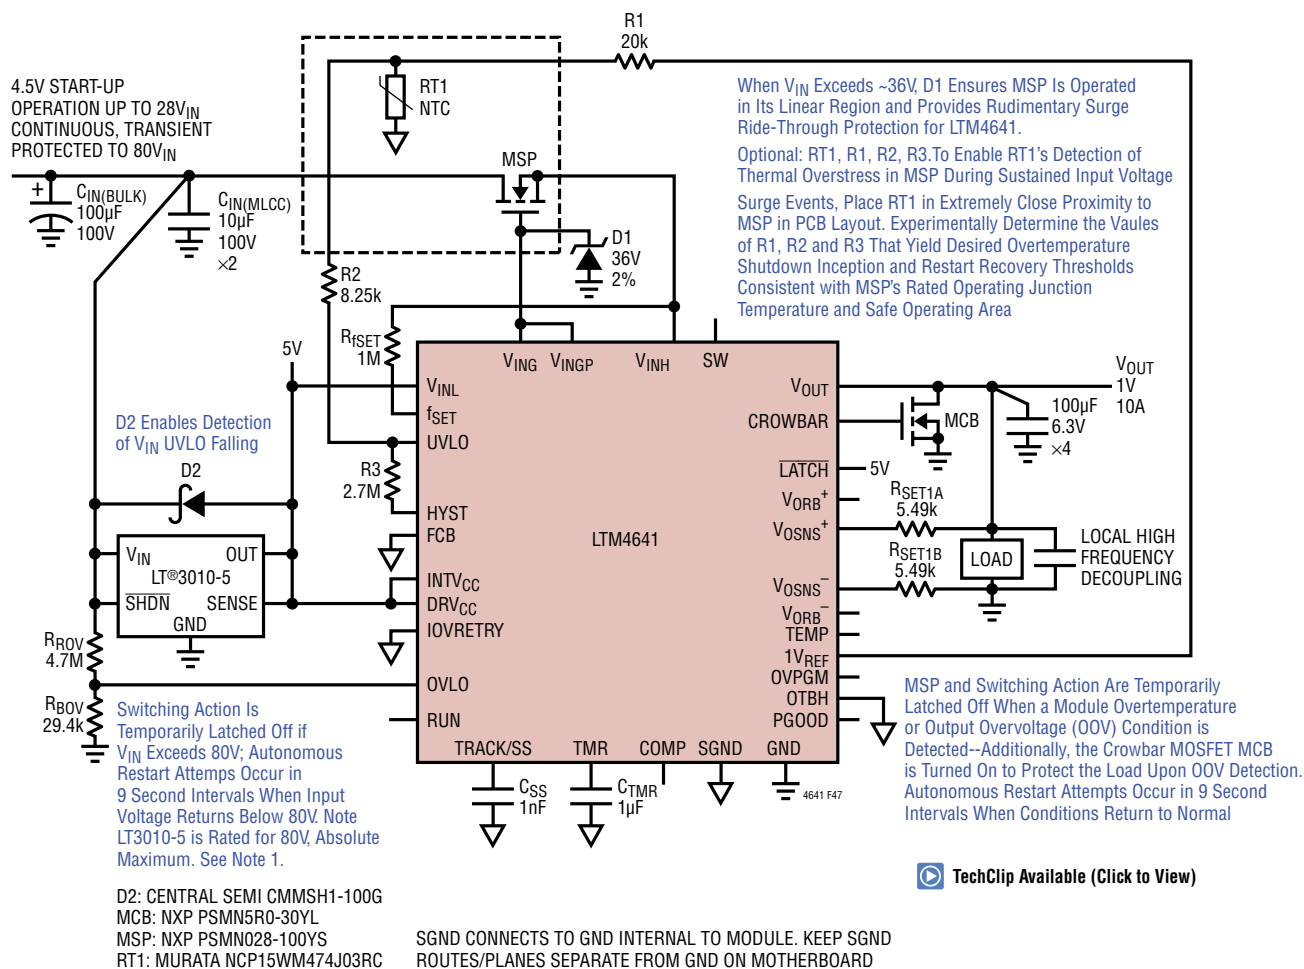

Figure 47. LTM4641 Generating 1V Output at 10A, Surge Protected up to 80VIN Transients. Start-Up and Shutdown Waveforms with TMR = INTVCC Shown In Figure 2
- (4) In order to maintain a relatively constant switching frequency for a given output voltage (across the full line voltage), the on-time of M_{TOP} should be inversely proportional to the voltage source feeding the V_{INH} power stage—upstream of MSP, if a power-interrupt MOSFET is used (Figure 46). When V_{INL} and V_{INH} are operated from different rails, this goal can be accomplished satisfactorily by placing R_{fSET} between f_{SET} and the power V_{IN} input source (see Figure 49: the connection is to V_{IN} and not V_{INL} , and usually not V_{INH} , but see a counterexample in Figure 47 and explanation in item number 5 of this list). A minor error term to the on-time is introduced by the internal $1.3M\Omega$ V_{INL} -to- f_{SET} -connected resistor in such scenarios, so calculation of I_{ON} at all operating input voltage corner cases (power, V_{INH} and control bias, V_{INL} extremes) and the resulting switching frequency range of operation, given by Equation 6, should be considered.
- (5) When MSP is used, and when V_{INL} and V_{INH} are operated from different rails—here is the reason it is recommended to connect R_{fSET} from f_{SET} to the drain of MSP rather than V_{INH} : prior to start-up, MSP is off, and V_{INH} is discharged. Connecting R_{fSET} to V_{INH} would set the on-time at the instant switching activity commenced to be much lower than intended. The on-time would not reach its final settling value until V_{ING} circuitry had turned on MSP enough for V_{INH} to become pulled up to V_{IN} potential. It should become apparent that a mechanism may exist for dynamic interaction between how rapidly the output voltage ramps up (depending on TRACK/SS pin usage) versus how rapidly MSP might turn on. We know from item number 2 of this list that on-time should not be arbitrarily large. In general, to avoid any undesirable
interactions—which might at worst result in excessive output voltage ripple or non-monotonic output voltage ramp-up, a sufficiently slow output voltage ramp-up time can eliminate the danger of V_{INH} and on-time settling interactions influencing output voltage ripple—but properly, this requires investigation and hardware evaluation on a case-by-case basis. Figure 47 shows an example where R_{fSET} connects between f_{SET} and V_{INH} —rather than the input source supply. Because MSP limits the V_{INH} voltage during the input voltage surge, the correct I_{ON} programming current can only be made with a resistor interface to V_{INH} , in that example.